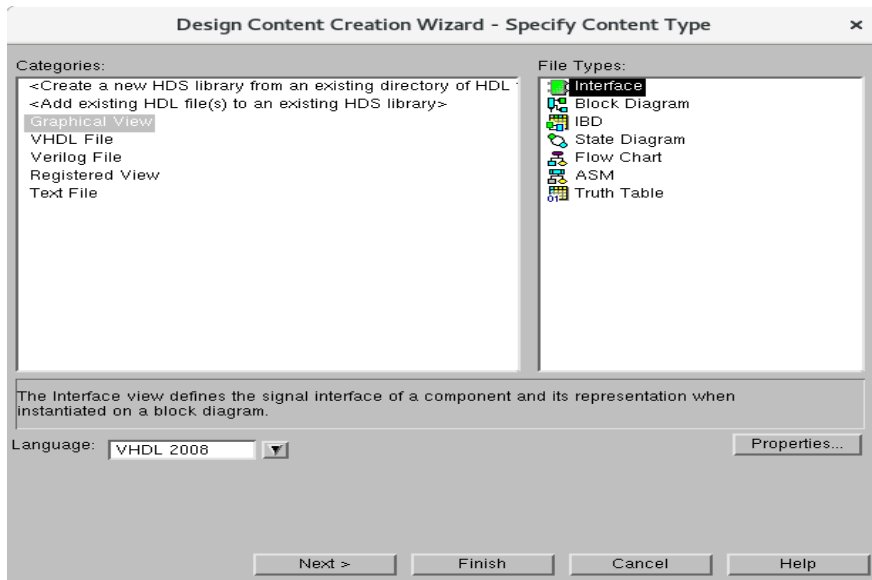

Figure 13: Create a new symbol using New Design Contents Wizard
2. Select Interface from the dialogue that is shown in Figure 13, “Create a new symbol using New Design Contents Wizard” and press finish.